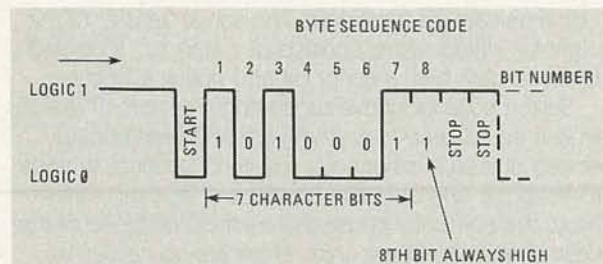
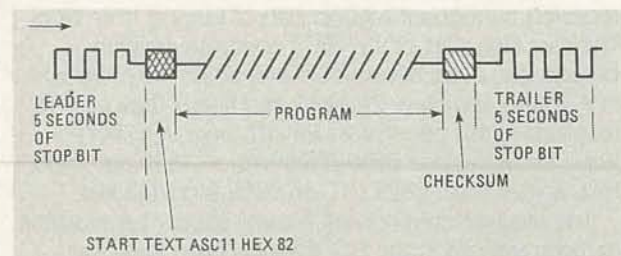

FIG. 2—THE LETTER 'E' shows the byte sequence code. You'll find a start bit, seven character bits, the eighth bit and two stop bits, a total of eleven bits.
FIG. 3—THE TONE SEQUENCE used for the actual broadcast transmission, which is eventually recorded by the user.
the *UC-2200* controller. Communicating inductively, the controller uses the wrist module as its display device. As shown in Fig. 3, the *UC-2200* controller contains an 8-bit CMOS Z80-equivalent microprocessor. It boasts not only a complete, typewriter-style QWERTY keyboard with function keys, but also a dot-matrix mini-printer. The controller also features 4K of RAM
FIG. 3—THE CONTROLLER MODULE contains a CPU, RAM, ROM, an optional ROM containing applications software, a keyboard encoder, buzzer driver and transmitter, a keyboard, printer controller, printer, buzzer, and loop antenna.
All characters are represented in ASCII (American Standard Code for Information Interchange). Since only seven bits are used to represent an ASCII character, the eighth bit is always automatically set high (1). The complete character consists of a start bit, seven character bits, the eighth bit, and two start bits. A total of eleven bits; exactly the same format as used for a standard 110 baud teletypewriter. Figure 2 shows how the character "E" would be transmitted. Figure 3 shows the tone sequence used for the actual broadcast transmission, which is eventually recorded by the user. The complete off-the-air signal consists of: Leader, 5 seconds of 2400 Hz; Start text, ASCII "Start Text" (Hex 82); Program, BASIC in ASCII; Checksum, and Trailer, 5 seconds of 2400Hz. The checksum at the end is derived from the bit indication of exclusive-OR of the previous bytes, and is expressed as an 8-bit term. The purpose of the Checksum is to allow the user to test whether the program has been read from the tape